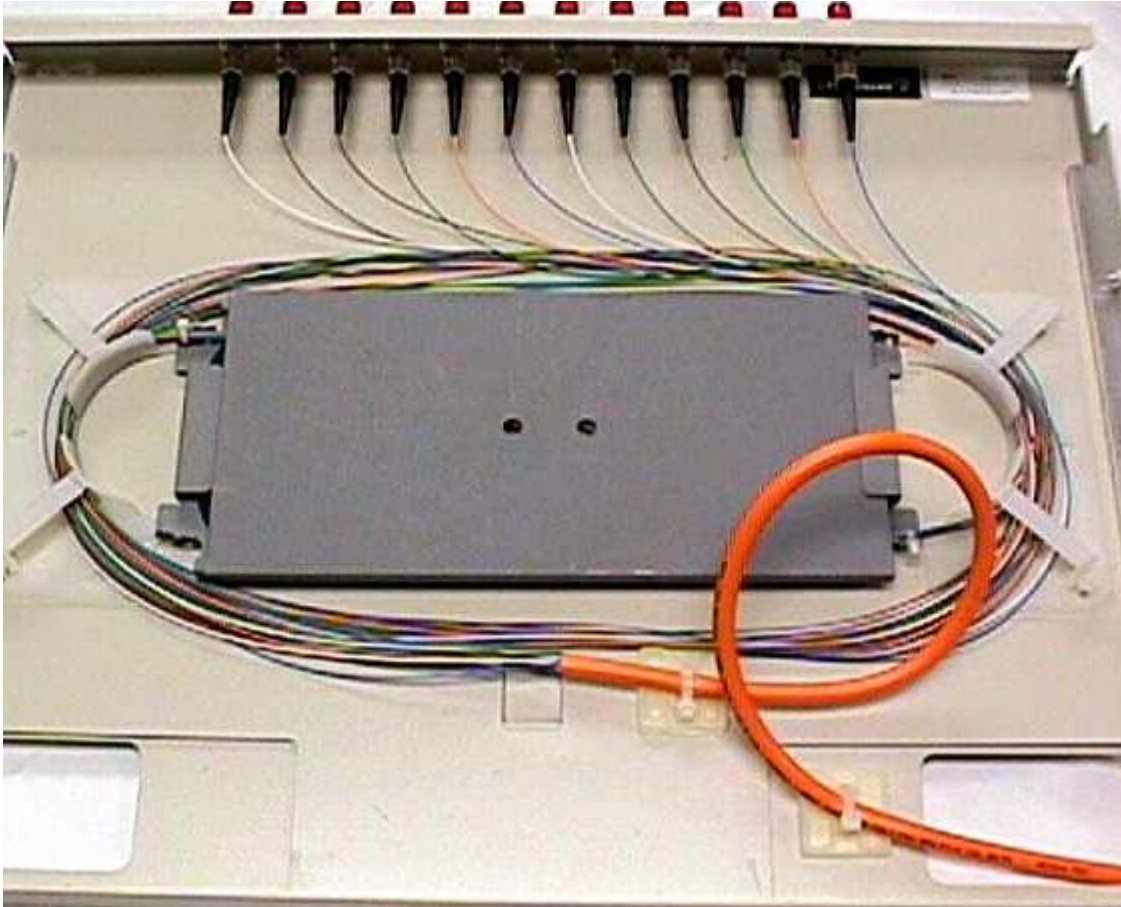

Figure 6.3
- 6.3.9 Route the cable through the ring. Refer to Figure 6.3
- 6.3.11 Loop the jacketed fiber and secure to the tie wrap holddown block located on drawer with a tie wrap as shown in Figure 6.3.